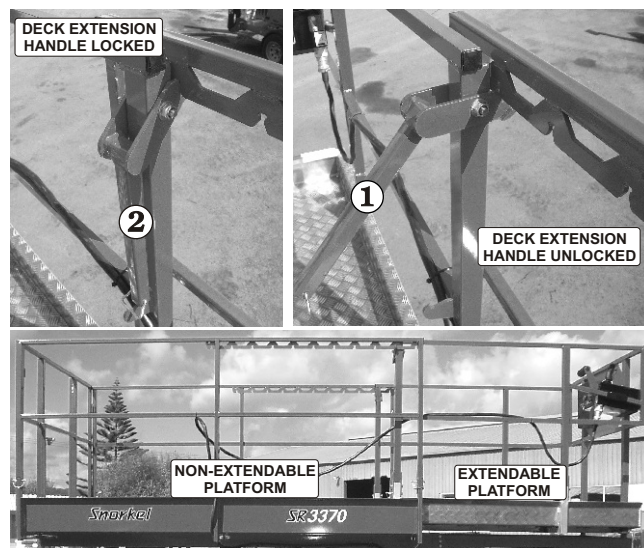

Figure 8.26
The MULTI-position extendible platform (see Figure 8.26) can be securely locked into different positions. To move it from one position to the other do the following:
2. Lift up the deck extension handles (one for each side of the deck) ① to unlock the deck (see Figure 8.26).
4. Lower the deck extension handles and allow the lock ② to locate (see Figure 8.26).